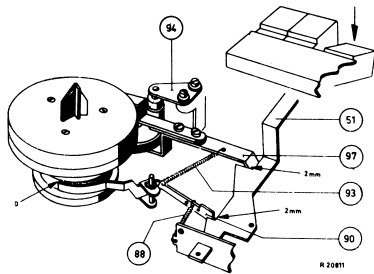
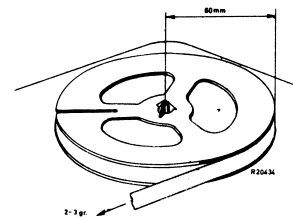

Fig 42
Fig 43
- If the key for rewinding is depressed, reel strip 51 should release idler wheel bracket 97 and brake bracket 89 about 2 mm, see fig. 42. Tension spring 93 should pull idler wheel 148 against the 19-cm/sec step of the motor pulley.
- The braking action of brake bracket 89 has to be 2-3 gr., measured with a full 5" reel (reel-diameter 120 mm). See fig. 43. This force can be adjusted by re-hooking tension spring 88 on brake bracket 89. See fig. 42.